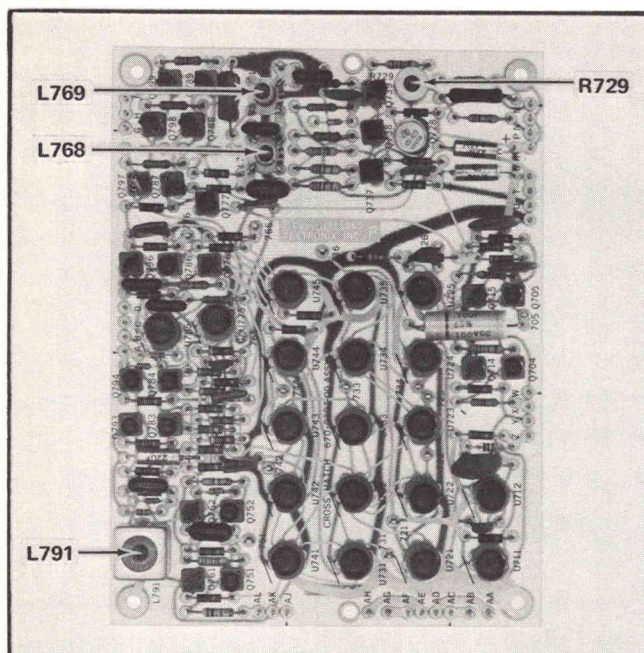

Fig. 5-46. Crosshatch board adjustment locations.
j. ADJUST—R729 (see Fig. 5-46) until the top of the bottom display just aligns with the sync tip of the upper display.
h. **ADJUST—L791 (see Fig. 5-46) until the time between the seventeenth pulse and the trailing edge of the setup (see part g) matches the time between the leading edge of setup and the peak of the first vertical line pulse (see part e).**
- f. ADJUST—L768 and L769 (see Fig. 5-46) for the best square corner on the horizontal line pulse.